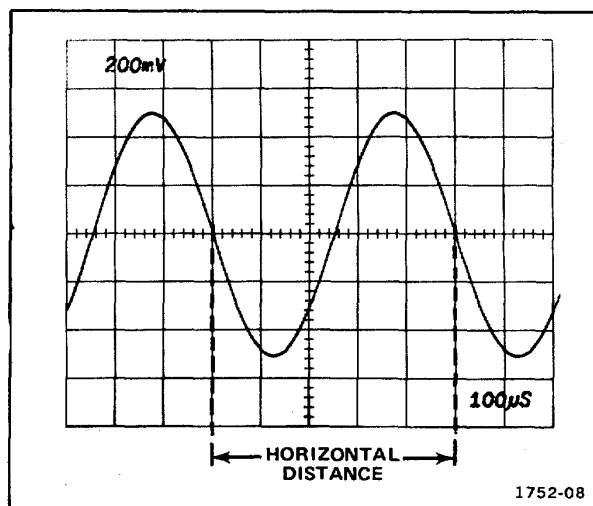

Figure 2-7. Measuring the time duration between points on a wave-form.
5. Set the TIME/DIV OR DLY TIME switch to the fastest sweep rate that displays less than 8 divisions between the time measurement points (see Time Measurement discussion and figure 2-7).
Example: Assume that the distance between the time measurement points is 5 divisions (see figure 2-7), and the TIME/DIV OR DLY TIME switch is set to .1 ms.
Example: The frequency of the signal shown in figure 2-7 which has a time period of 0.5 millisecond is: